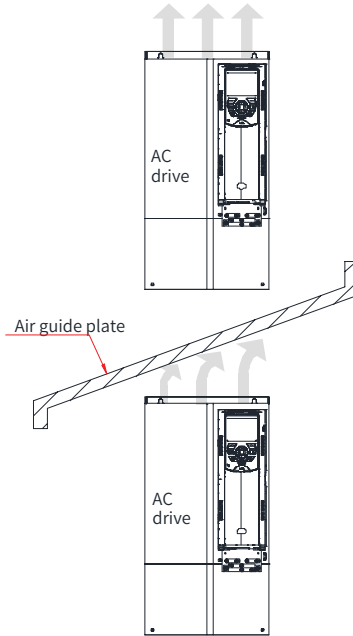

Figure 2-6 Installing drives (T2 to T9) one above another
- ◆ Install the drive in an upright direction for efficient heat dissipation. If multiple drives are installed in the cabinet, install them side by side. If drives are installed one above another, install an air guide plate, as shown in Figure 2-6.